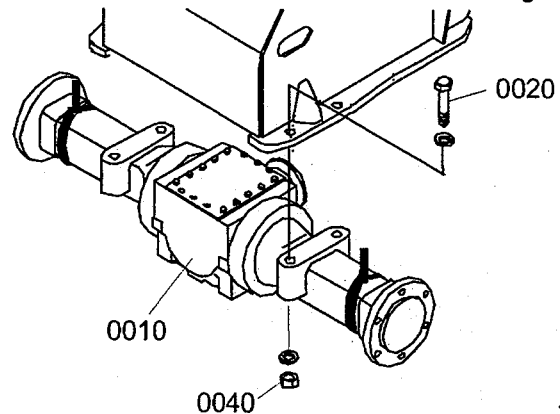

Fig35-00
1. Fig35-00: Place the front axle (0010) into position, then install the nuts (0040). Apply a thread locking adhesive to the threads of the bolts (0020).